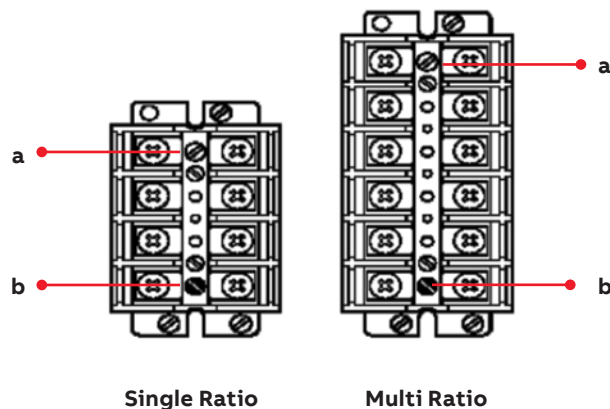

Fig. 5 Short circuit device
10. Remove shorting screws from the terminal blocks in the current transformers circuits. Store screw in the tapped holes in the corners of the blocks (see Figure 5).